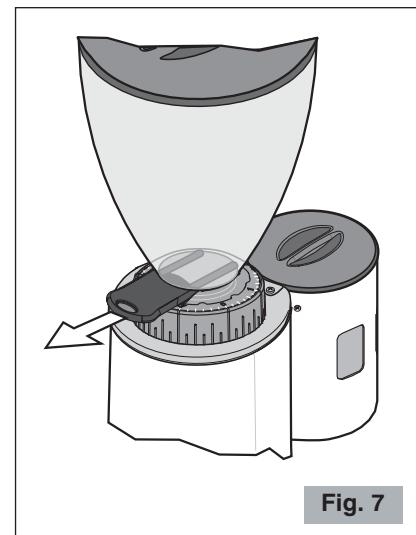

Fig. 7
- ⚠️ Make sure that shutter is completely open (to the last click) (see Fig. 7).**